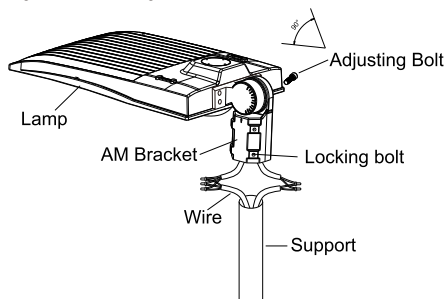

Figure 1
1.ADJUSTABLE FITTER MoUNTING (AM)
Step 1: Loosen the four bolts on AM bracket, connect the wires correctly, and pull the wires into the poles.(Figure1)
Notice: Adjustable angle is 0-90°(Figure 1)